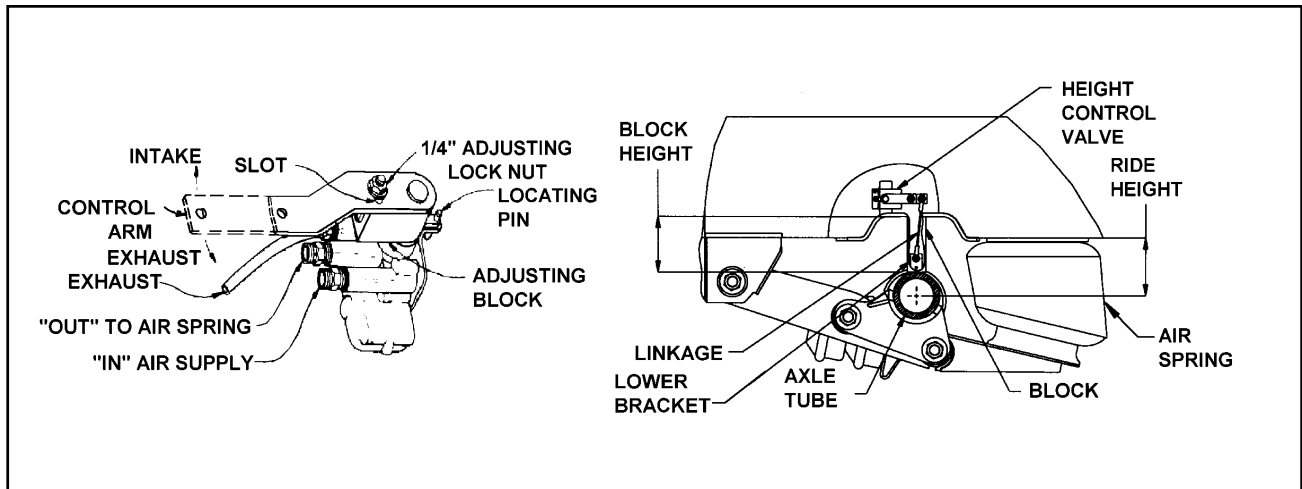

Figure 4-4 Air Ride Height Adjustment
4-6.3 Air Ride Height Adjustment (See Figure 4-4 for parts identification)
- b. Disconnect linkage at the control arm and raise control arm to the "up" position, raising the trailer until a block can be placed between axle tube and undercarriage frame (See Figure 4-4).
- f. Loosen the 1/4" adjusting lock nut located on the adjusting block, allowing the control arm to move approximately 1 inch. Move the adjusting block until holes align, then insert locating pin. **(See Figure 4-4).**